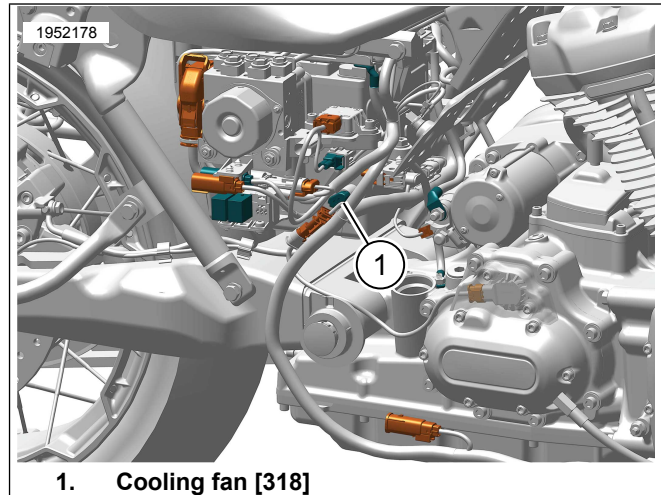

Figure 4. Fan Connector for Center-Cooled Vehicles
- c. See Figure 4. Locate chassis cooling fan [318].